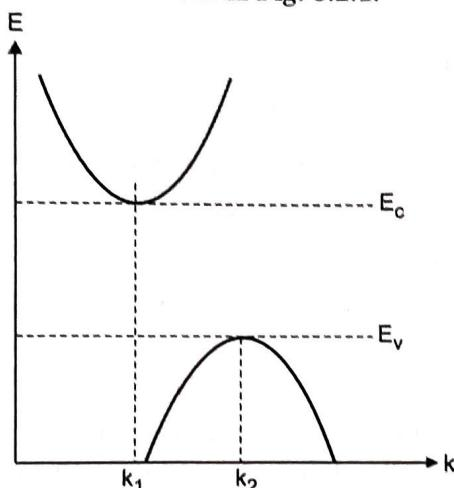

Fig. 3.2.1
- The graph $E \rightarrow k$ which is of parabolic nature, is known an $E - k$ diagram. If we show $E - k$ diagram for conduction and valence band, it will be as shown in Fig. 3.2.1.